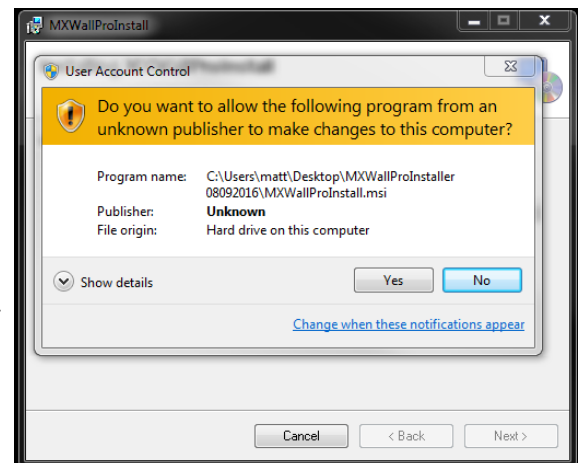

Figure 8-4
4. Your System may ask if its ok for the installer to make changes to your computer. Click the Yes button to continue. (Figure 8-4)